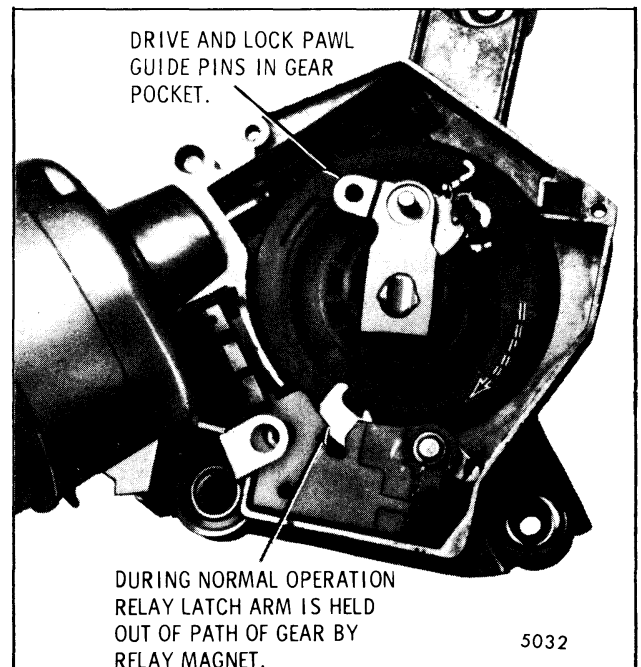

Fig. 2-25-Gear in Normal Run Position
1. The relay coil circuit is opened and this allows the spring loaded relay latch arm to move out into the path of the gear drive pawl (Fig. 2-25). The relay-switch contacts, however, are still closed at this stage of operation and the wiper motor continues to run.